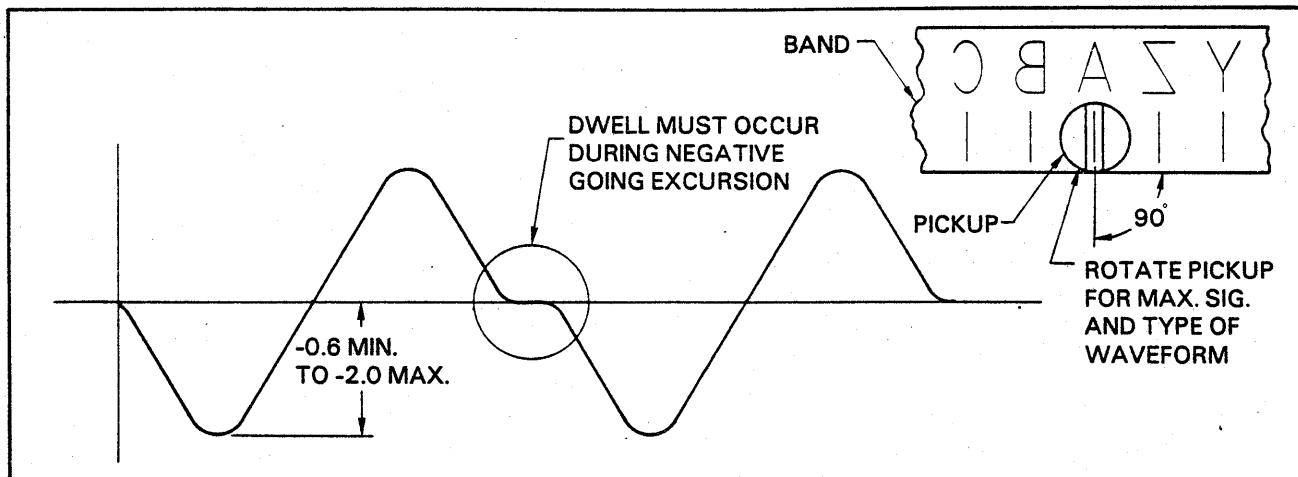

FIGURE 5-4. CHARACTER AND HOME PULSE WAVESHAPES
12. Check the polarity of the pickup wires and the pickup output amplitude by observing the waveform on a scope. Start the band running and connect the scope first to the Character pickup and then the Home pickup. Character pickup is monitored at 7PC3 TP-2. Home pickup is monitored at 7PC3 TP-25, ground reference at 7PC3 TP-1. The null or dwell crossing zero volts must be on the negative slope which means the lead polarity is correct. The negative excursion peak voltage must be as shown in Figure 5-4. If the waveform appears with rounder peaks, check the vertical alignment of the tip of the pickup.